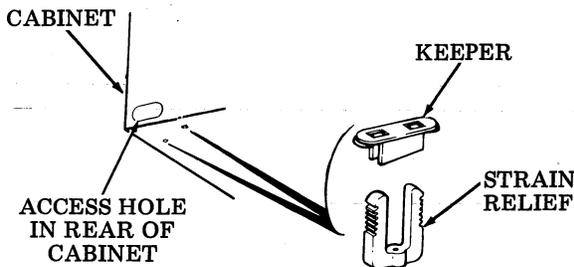

Fig. 18
- ② Remove and save the keepers (see Fig. 18) from the two strain reliefs on the bottom of the cabinet. Cabinets manufactured before March, 1979 do not have strain reliefs.